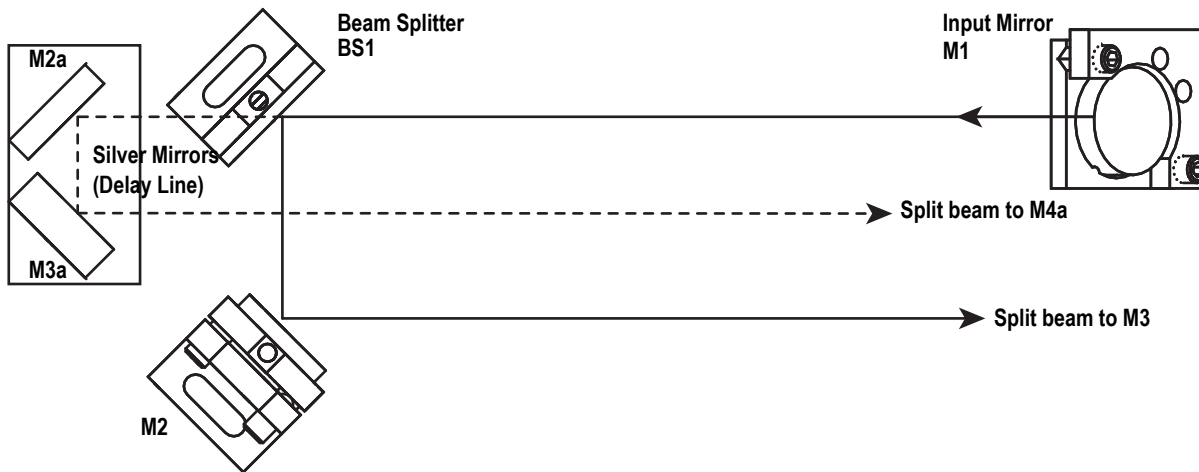

Figure 2-4. Beam Splitter Location
3. The beam is divided into two beams by a 50% beam splitter (BS1) as shown in Figure 2-4: